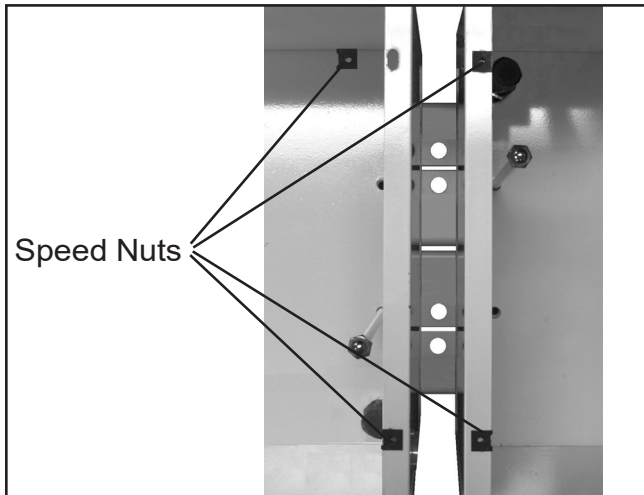
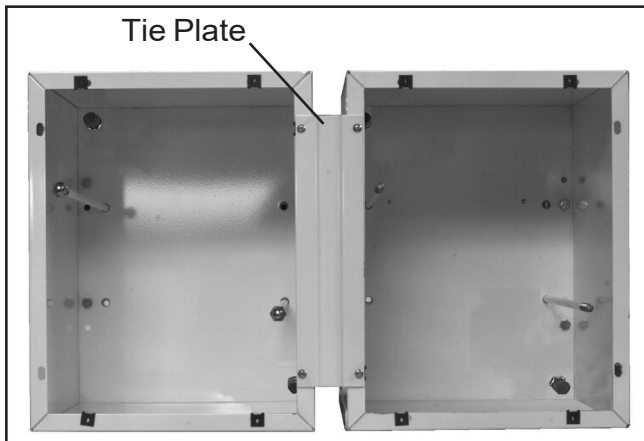

Figure 9
Figure 10
4. If gang mounting boxes, install (4) speed nuts onto mounting box as shown (Figure 9). Place tie plate onto mounting box as shown in Figure 10 and secure using (4) 6-32 x 1/4" screws provided.